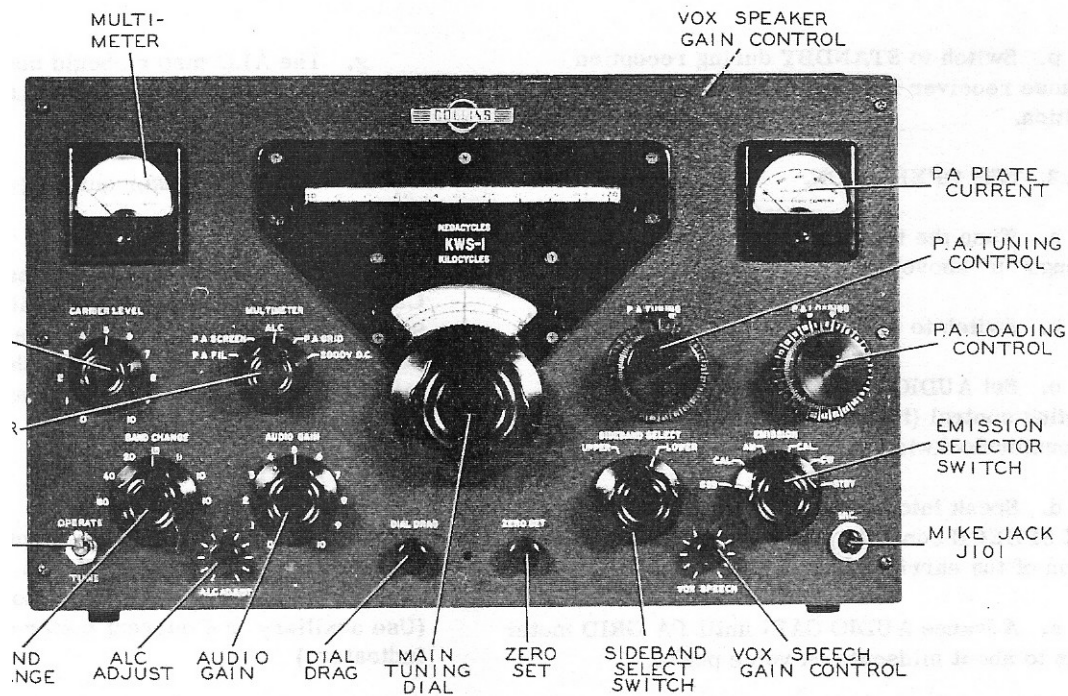

Figure 3-1. Exciter Front Panel
- a. Plug microphone into the MIC jack (J101) located at lower right-hand corner of front panel. (See figure 3-1.)